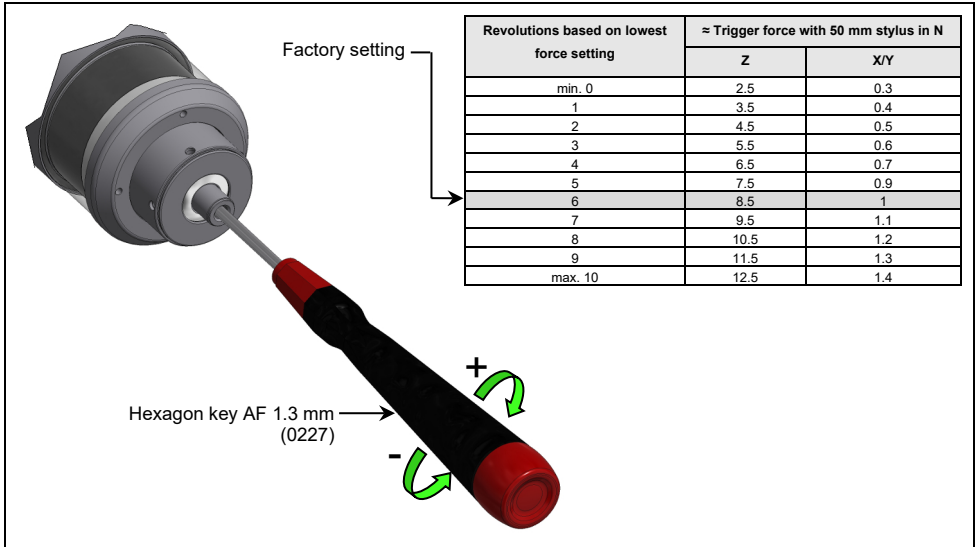

Fig. 18 Adjusting trigger force
2. Use an AF1.3 mm hexagon key to increase or decrease the trigger force (refer to Fig. 18).